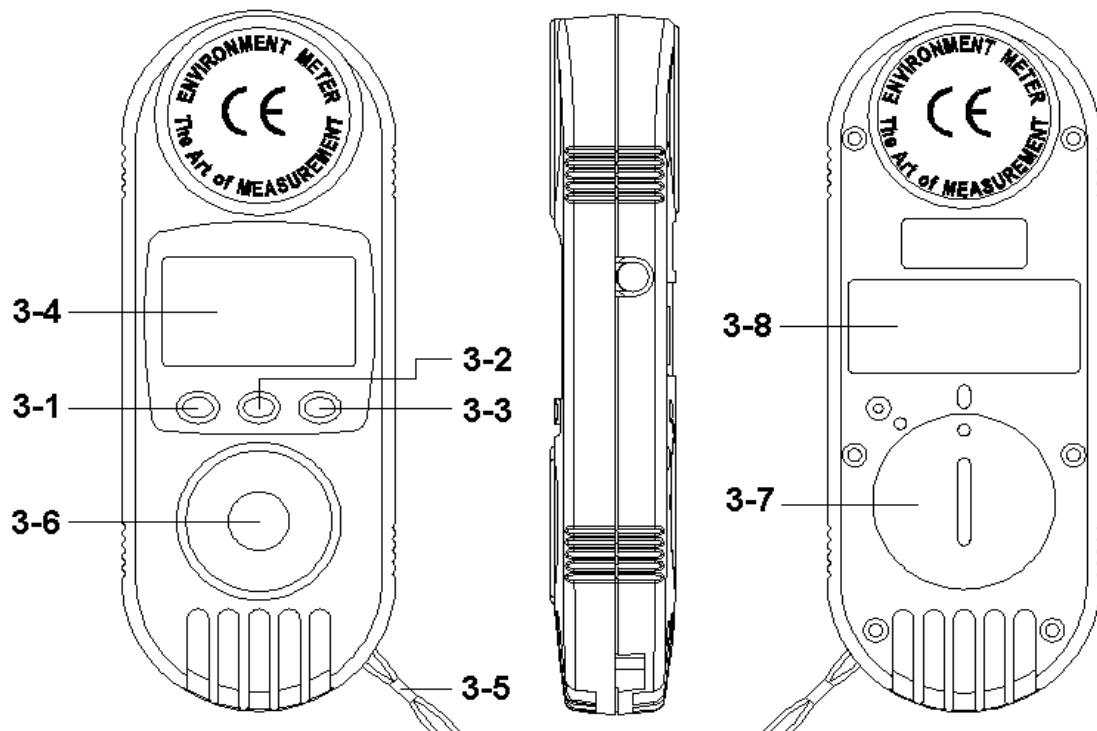

Fig. 1
2) Position the " UV Light Sensor " (3-6, Fig. 1) directly under the UV light source, the " Display " (3-4, Fig. 1) will show the UV light value with auto range measurement. If the measuring value over 20 mW/cm², the " Display " will show " - - - - ".
For the convenient measurement, if intend to reverse the Display direction, just press the " Hold button " (3-1, Fig. 1) once, then press the " Power button " (3-2 , Fig. 1) once, the Display direction will be reversed automatically.
** After reserve the Display direction already, press the " Hold button " (3-1, Fig. 1) once, then press the " Power button " (3-2 , Fig. 1) once again, the Display direction will back to the original normal direction again.*
- 2) Open the " Battery Compartment / Cover " (3-7, Fig. 1) and remove the battery.